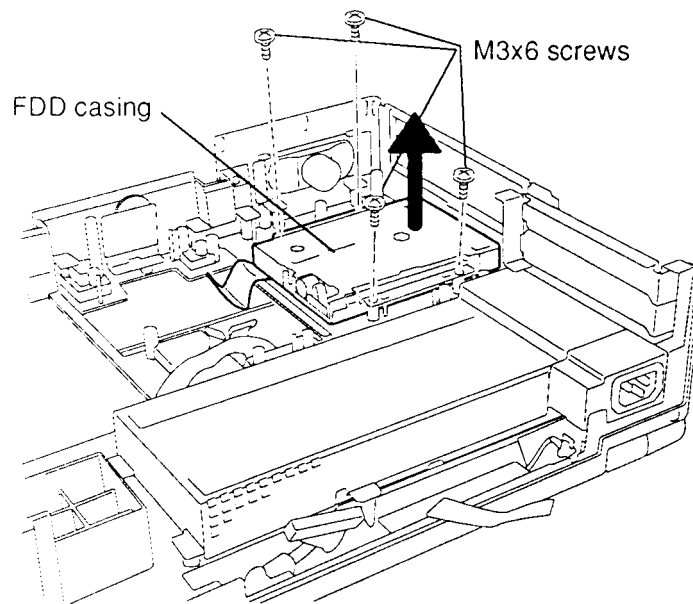

Figure 4-31 Removing the FDD Unit
To remove the computer's FDD, follow the steps below and refer to Figures 4-31 and 4-32.
3. Remove the **four M3x6 screws** securing the **FDD casing**, then lift out the **FDD** with its **casing** (Figure 4-31).
To install the computer's FDD, follow the steps below and refer to Figures 4-31 and 4-32.
2. Place the FDD unit into the system unit and secure it with **four M3x6 screws**. (Figure 4-31)